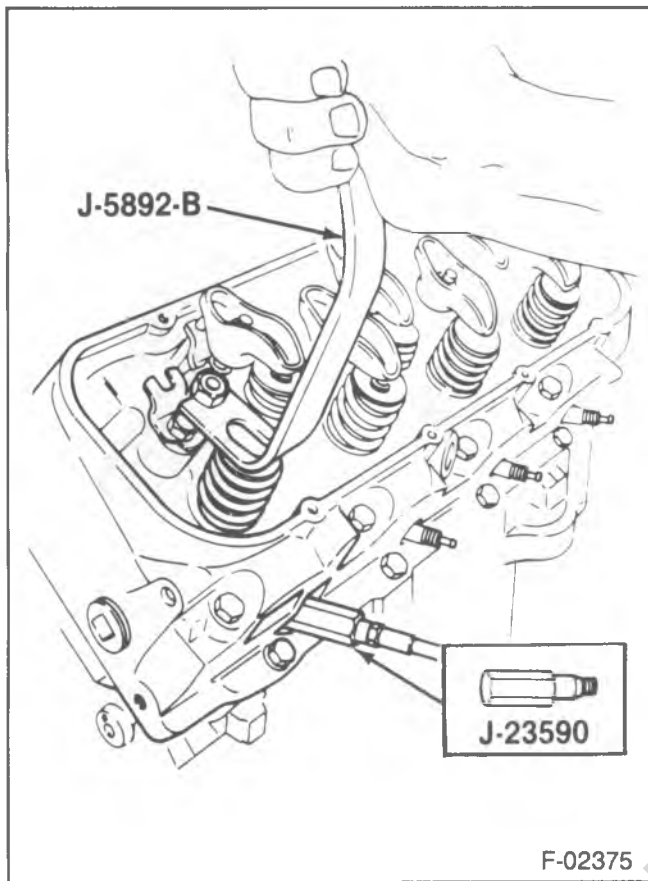

Figure 5—Compressing the Valve Spring
- Install a rocker arm nut (figure 5).
- Use J-5892-B to compress the valve spring (figure 5).
5. Cap (25) and spring with damper (23).
6. Seal (24).
- With air pressure applied to the cylinder with J-23590, compress the spring with J-5892-B (figure 5).